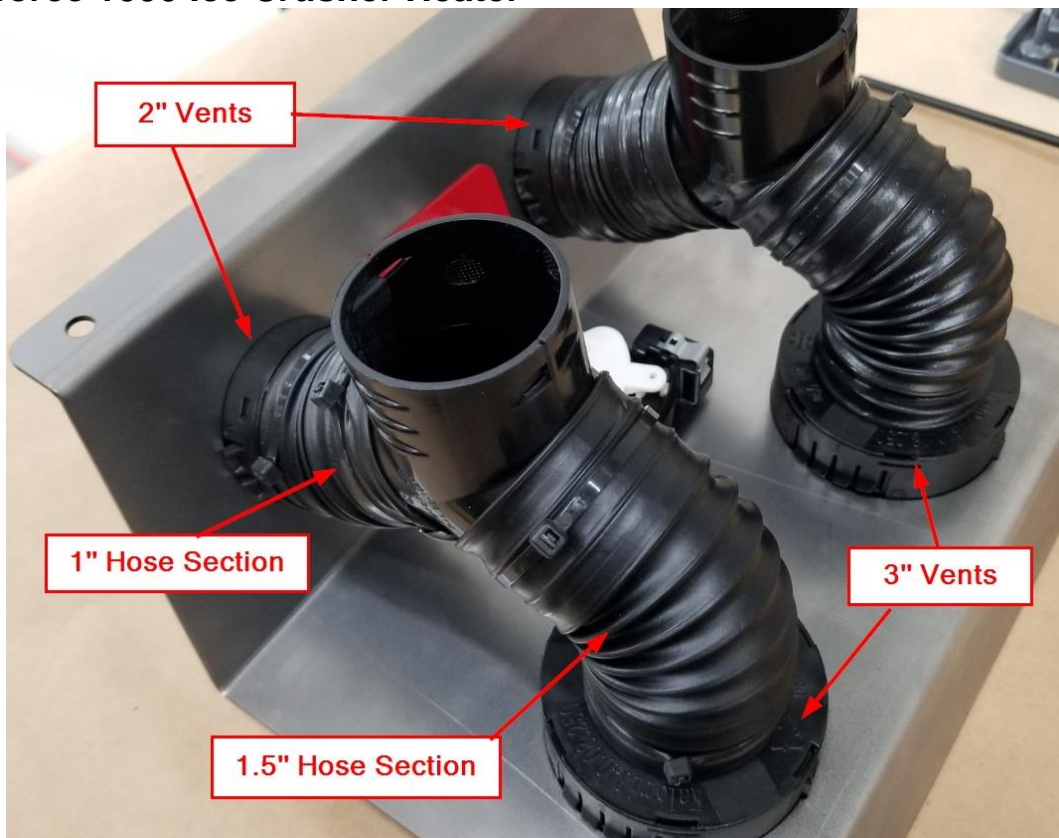

Figure 16
- i. Attach the 2" Y Fitting assemblies to the 2" and 3" vents as shown in Figure 16. Be sure to orient the 1" and 1.5" piece of 2" duct hose according to Figure 16.